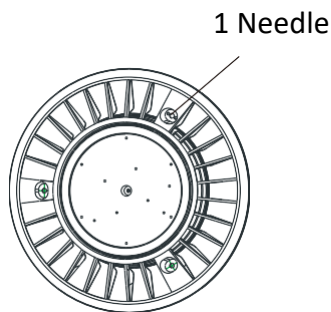

Figure 1
1. Find the power cord hole (Figure 1)